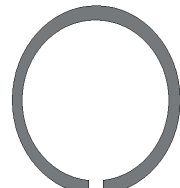

Figure 15
*For sizes > 2.750 inch (70 mm)* install the square-headed pin [5] into the hole on the inner gland where the stationary face [14] will be located. Cut a 0.250 inch (6 mm) slot in the vibration dampener [183]. See Figure 15. Install onto the inner gland surface where the stationary face will be installed with the slot positioned where the drive pin is located.